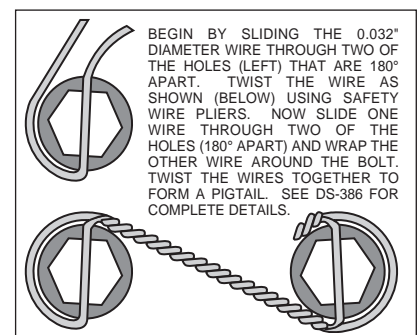

Figure 4. Safety Wire Diagram
- Pack the large inner bearing cone (5) with high temperature disc brake bearing grease (available from your local auto parts store) and install into the backside of the hub (4).
- Install the grease seal (6) by pressing into the backside of the hub (4).
- Pack the small outer bearing cone (12) with high temperature disc brake bearing grease and install into front side of the hub (4). Slide the hub assembly (4, 5, 6 and 12) onto the spindle. Secure using spindle washer (13), stock adjusting nut, and nut locking device. Adjust wheel bearing pre-load per Original Equipment Manufacturer (OEM) specifications.
- Install the O-ring (14) and the dust cap (15) into the hub (4). **NOTE:** O-ring (14) friction will not allow cap (15) to unscrew on its own.
- With the larger I.D. side of the rotor (7) facing away from the hat (8), bolt rotor (7) to hat (8) through the backside of the rotor using washers (9) and bolts (10). Using an alternating sequence, apply red *Loctite*® 271 to the threads and torque bolts to 155 **in-lb**. For an added measure of security, the bolts may be safety wired using standard 0.032 inch diameter stainless steel safety wire as shown in Figure 4. Please refer to Wilwood's data sheet DS-386 for complete safety wire